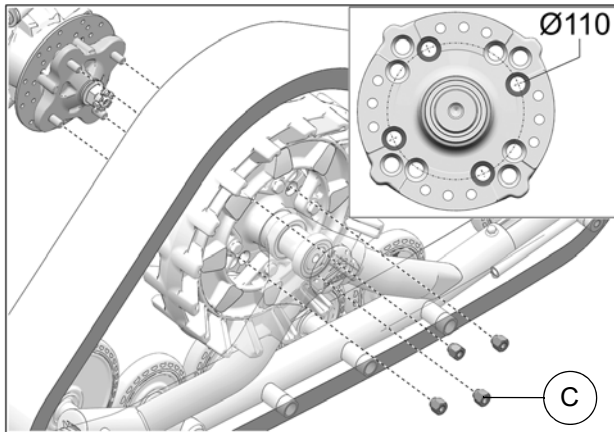

Fig. 20
- Secure undercarriage to front hub using the lug nuts (C) provided. Use bolt circle $\text{\O}110$ mm. See Fig. 20